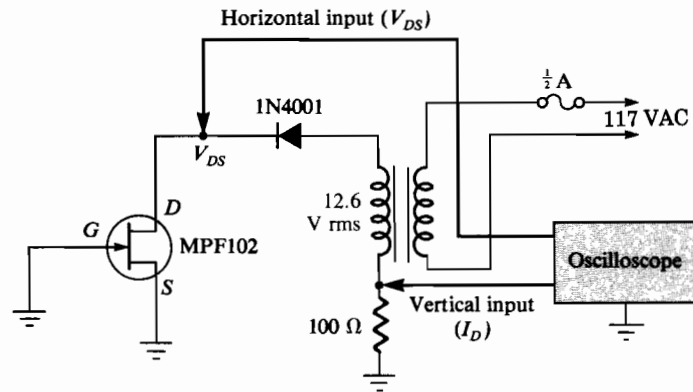
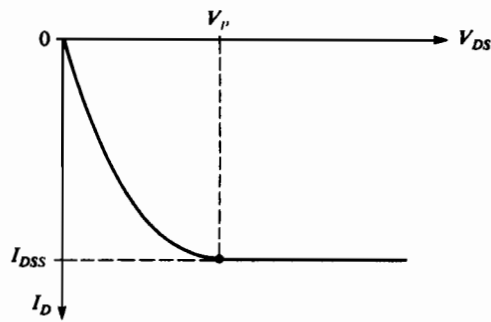

FIGURE 17-1 Schematic diagram of circuit.
FIGURE 17-4
1. Wire the circuit shown in the schematic diagram of Figure 17-1. In this part, the oscilloscope is set up to function as an X-Y plotter. Set the oscilloscope's controls to the following approximate settings:
3. As shown in the schematic diagram of Figure 17-1, both the gate and source leads are grounded, and thus V_{GS} is zero. Consequently, the maximum drain current (I_{DSS}) occurs when the curve flattens out. The pinch-off region of the drain curve is for drain-to-source voltages greater than the JFET’s *pinch-off* voltage, V_p . This also occurs when the drain current just begins to flatten out. Numerically, the pinch-off voltage is equal to the JFET’s gate-to-source cutoff voltage, $V_{GS(\text{off})}$. Using Figure 17-4 as a guide, estimate from the oscilloscope’s display both I_{DSS} and $V_{GS(\text{off})}$ for the MPF102 JFET you are using. Record these values in Table 17-1.
1. For the circuit of Figure 17-1, if the vertical sensitivity of the oscilloscope is set at 50 mV/division, the vertical axis is then calibrated to read
2. The curve of Figure 17-1 is called a